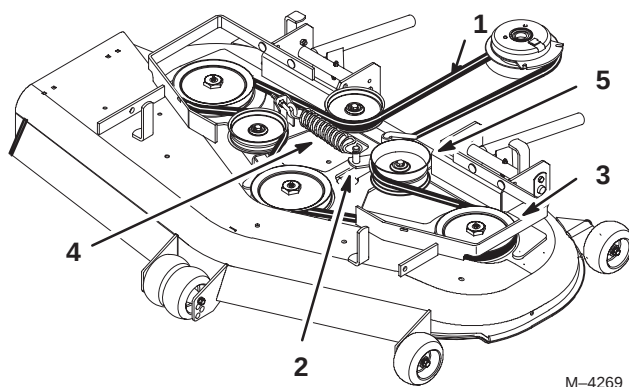

Figure 69
4. Remove belt. Start at outside pulley and rotate off (Fig. 69).
7. Reinstall idler pulley and route belt onto other pulleys (Fig. 69).